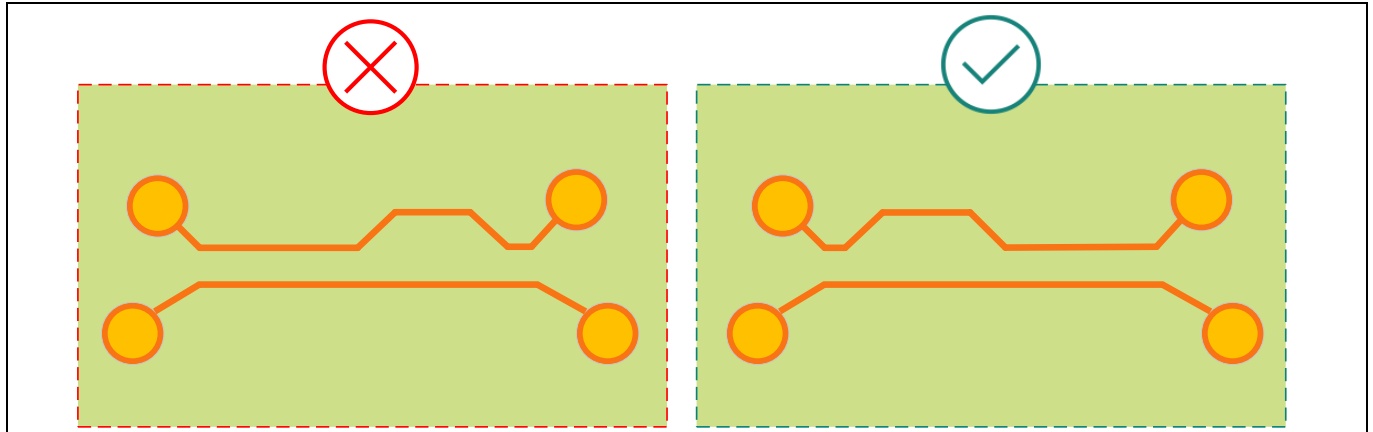

Figure 10 Add length correction near the mismatching point at the source
- Use serpentine (accordion) routing to fine-tune shorter traces to match longer ones. This correction should be applied as close as possible to the point of mismatch (e.g., near a via or component) as shown in Figure 10. The mismatch occurs on the left set of vias, so add the serpentine on the left